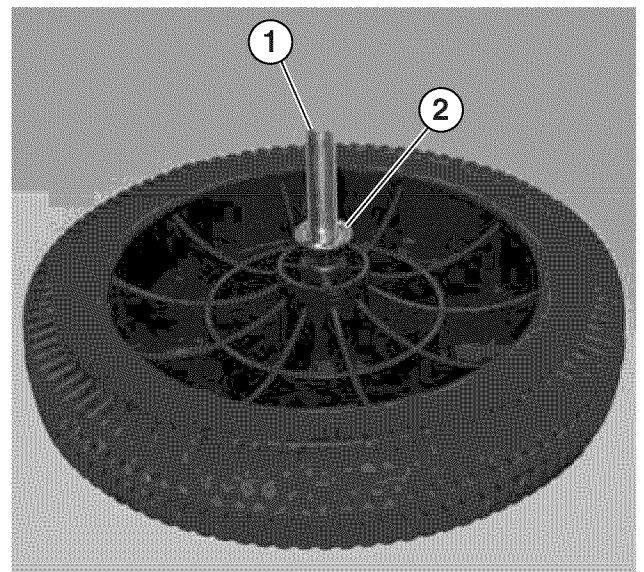

Figure 6 – Installing Outside Serrated Flange Nut
3. Install the M12 x 105 mm wheel axle flange bolt through the wheel (see *Figure 6*).
4. Thread the M12 serrated flange nut onto the bolt with serrated edges facing away from the wheel. Tighten the nut (see *Figure 6*).